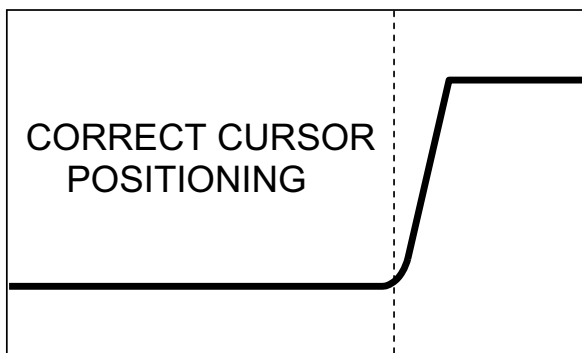

Figure 2-32
Step 4 – With Steps 1 & 2 completed press ENTER and use the ZOOM, SPAN, SCALE and CRSR1 keys to position the cursor at the end of the leads. See Figure 2-32. NOTE: The normal cursor information will NOT appear in the Test Lead Cal procedure as it can be in error and misleading.
Step 3 – Press ENTER to start the Sample A Cable operation and use the ZOOM, SPAN, SCALE and CRSR1 keys to position the cursor at the end of the leads. See Figure 2-32.